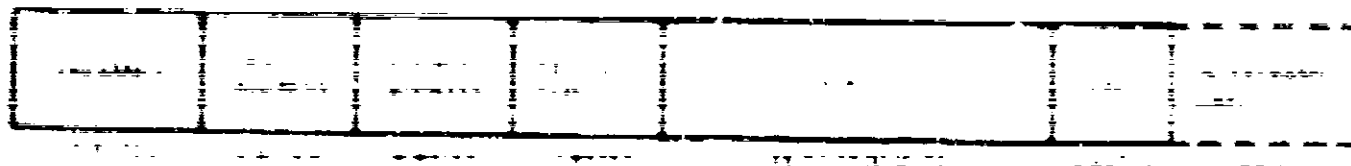

Figure 1-7 Ethernet Data Frame Format
1.3.6.3 Data Frame Format - Each station transmits a frame of serial data in the format shown in Figure 1-7. Each byte of data is right-aligned within the format. Table 1-10 describes the byte format that make up a data frame.